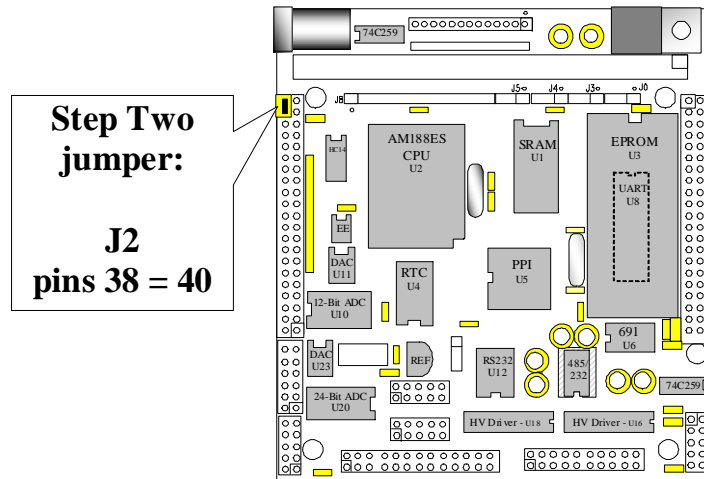

Figure 1.4 Location of Step 2 jumper on the A104
- Set the jumper on J2 pins 38-40 on the A104 (Figure 1.4).